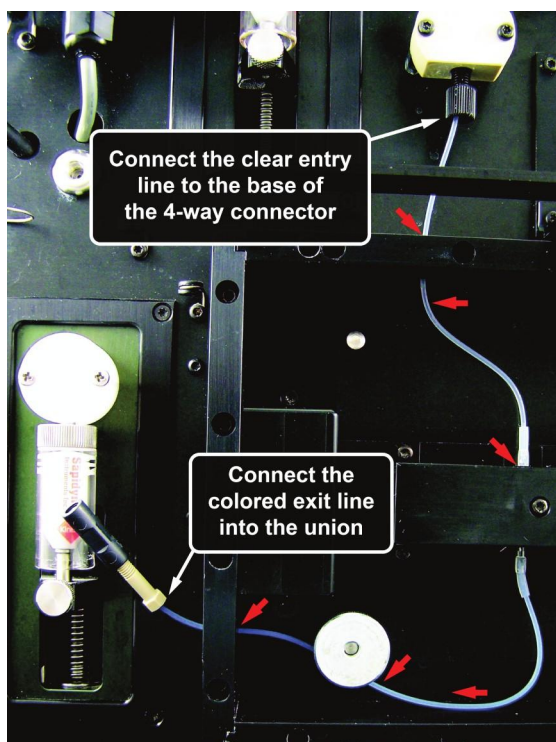

Figure 1: Installing a new Flow Cell into the Instrument.
- Route the clear *Entry Line* upwards through the *O-ring* (located on top of the *Optics House Frame*) and attach it to the bottom of the 4-way *Connector* using a *White Ferrule* (347016) with a 1/4-28 *Black Nut* (346001) (Figure 1).
- Slide the colored *Exit Line* through the *O-ring* (located on the left side of the *Optics Housing Frame*) and connect it into the bottom of the *Union* using a 10-32 *Tan Nut* (346201) and a *Tan Ferrule* (347116) (Figure 1).